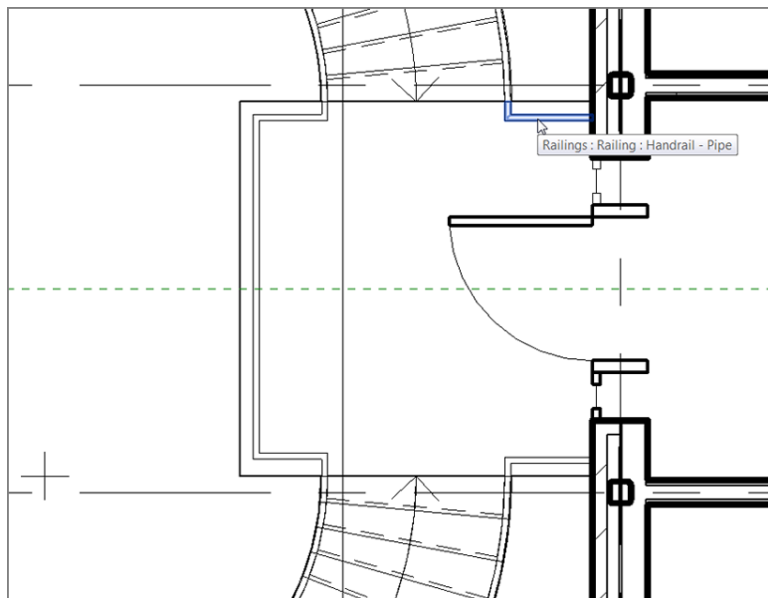

FIGURE 10.52: The railing on the landing
5. Pick the landing lines to offset in the railing (see Figure 10.52).
10. You may have to flip the railing by selecting it and then clicking the Flip arrow. Your railing should look like Figure 10.52.